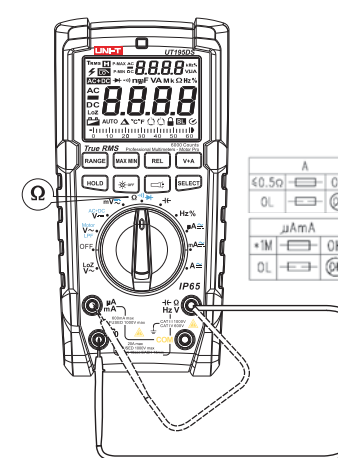

Figure 3b
- Use resistance measurement function can self-check the built-in fuses, see Figure 3b for more detail.